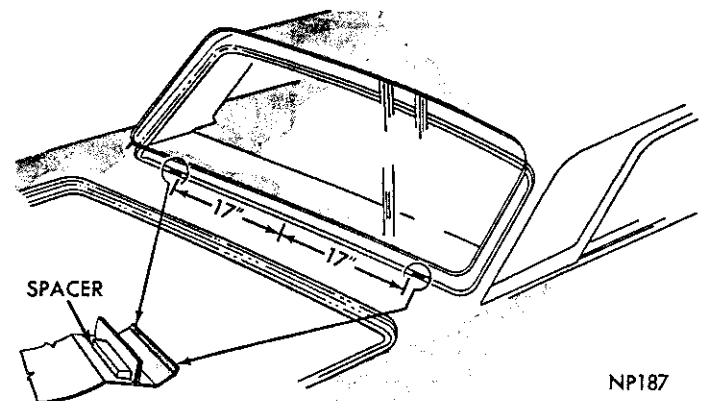
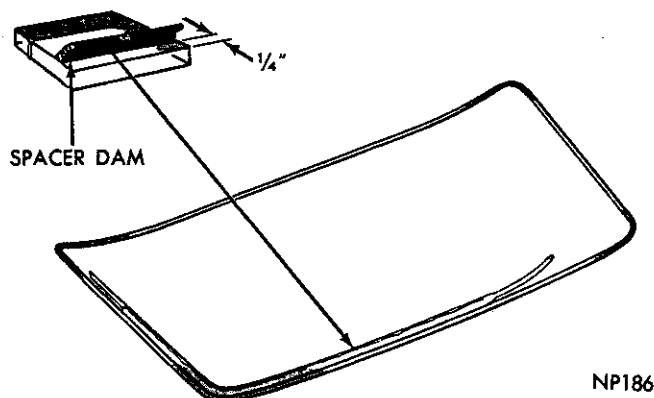

Fig. 8—Spacer Installation
Fig. 9—Spacer Dam Installation
(1) Inspect moulding retaining clips. Remove and straighten clips bent more than 1/32 inch away from the body panel. Use block self-sealing screw-on type clips when necessary to replace. All clips must be attached tightly.
(2) Inspect rubber spacers (2) in lower reveal. Spacers are made from .25 x .40 x 1.0 inch block of rubber and placed 17 inches from center line of window (Fig. 8).
(3) Clean interior surface of glass. Hand pressure to clean the glass interior surface after installing glass and before adhesive has set up may result in glass being pushed out of opening.
(4) Install spacer dam 1/4 inch from edge and positioned so it leans toward edge on glass inner surface (Fig. 9).
(5) Attach suction cups to glass outer surface and position glass in opening.
(6) Inspect relationship of glass to fence completely around opening. The spacer dam should fold under and create a cushion for the glass to rest on. The glass to body fence overlap (0.30 inch minimum) should be equal across the top and sides. Use waterproof shims under spacers to obtain required overlap.